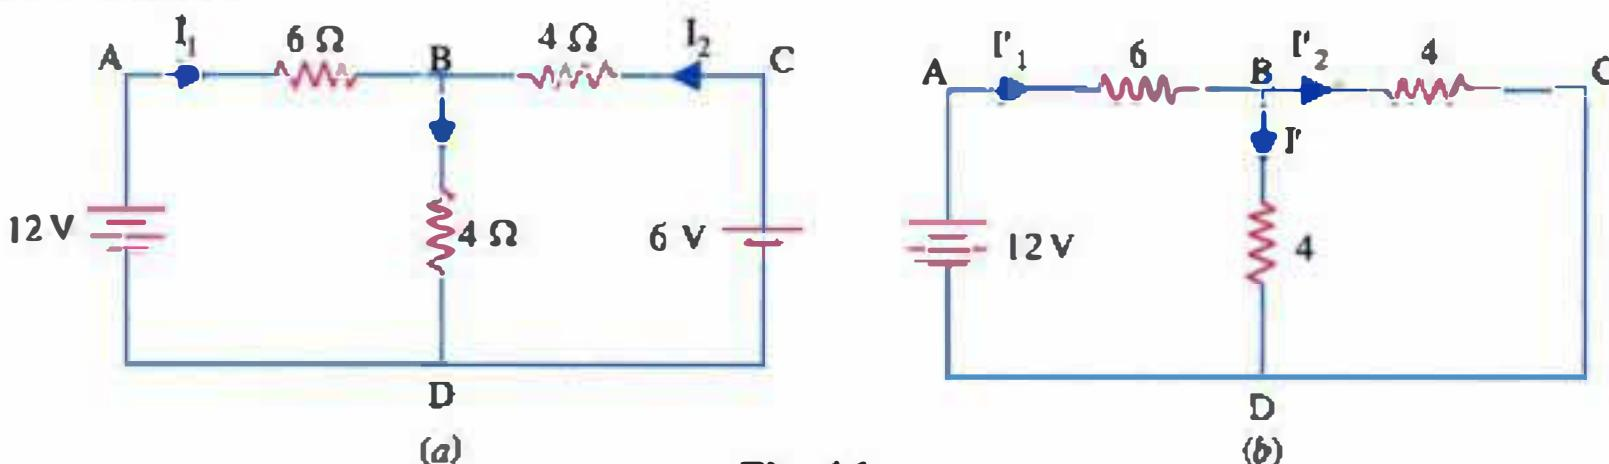

Fig. 4.1
**Example 4.1.** Using Superposition theorem, calculate current in each branch of the network shown in Fig. 4.1 (a).
**Solution.** We will find two sets of branch currents : one when 6 V battery is not there and the other, when 12 V battery is not there. Let the different branch currents be  $I_1$ ,  $I_2$  and  $I$  as shown in Fig 4.1 (a). In Fig. 4.1 (b), 6 V battery has been removed and then replaced by short circuit (since its internal resistance is zero). Various branch currents are as under :
If we combine the results of Fig. 4.1 (b) and 4.2 (a), we get,